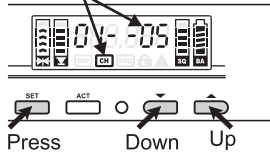

Fig. 12
- (1) Press the 'SET' 4 button until both GRP 20 cursor and a group number start blinking to denote it is ready to accept parameter change.
- (2) During blinking, press ▼ 7 or ▲ 8 button to select one of the factory preset groups.
(B) CH: CHANNEL Setting. Fig. 12